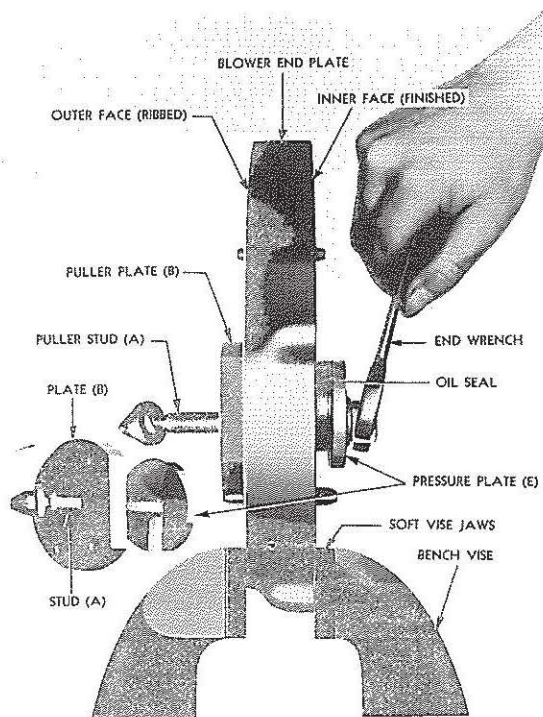
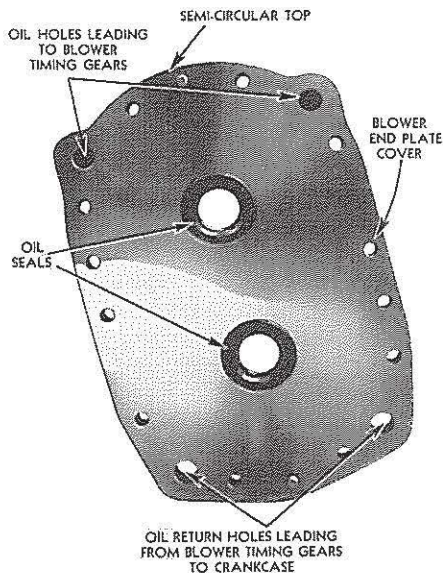

FIG. 8
FIG. 9
1. Install oil seals in blower end plates. The oil seals should be assembled into the end plates with flat face of seals flush with inner finished face of plates and sealing edge of leather pointing toward rotor bearings, as shown in Fig. 9. The seals may be installed properly with the tools shown in Fig. 8.
- a. Support end plate between soft jaws in bench vice. Back out puller stud (A) as far as possible and push stud through bore for bearing in end plate from the outer face (rib side with puller plate 'B') resting against outer face of blower end plate.